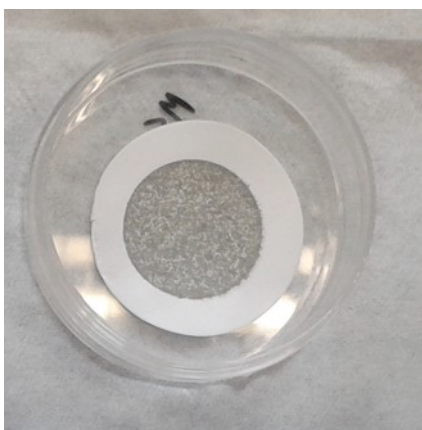

Figure 3: Filter containing the final AgI precipitates.
16. Filtration of precipitates (Figure 3):